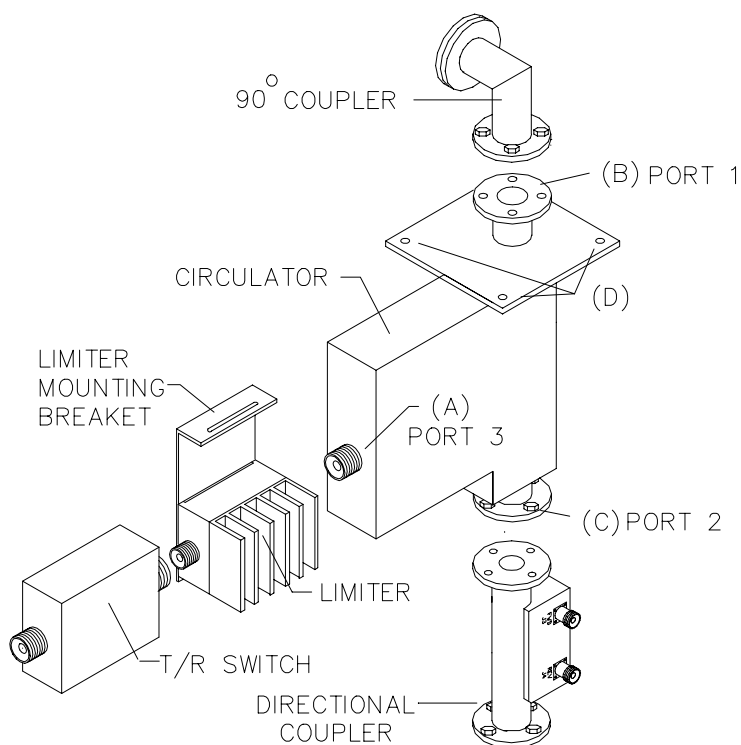

Figure 5-11 Circulator Replacement
2. Remove the side panel of the BSU Cabinet (see Figure 5-11).
3. Remove the mounting screws that attach the Limiter mounting bracket to the top of the BSU Cabinet (see Figure 5-11).
5. Disconnect the Limiter and T/R switch from port 3 of the Circulator point (A) in [Figure 5-11] by unscrewing the type "N" connector. Place the Limiter and T/R Switch on top of the Receiver.
8. Remove the four bolts that fasten the top of the Circulator to the 900 Coupler point (B) in [Figure 5-11].
10. Remove the bolts connecting the Circulator to the Directional Coupler point (C) in [Figure 5-11].
12. Remove the four bolts holding the top of the Circulator to the top panel of the BSU Cabinet point (D) in [Figure 5-11] and remove the Circulator.
16. Align port 2 of the Circulator point (C) of [Figure 5-11] with the center conductor of the Directional Coupler, and lower the Circulator straight down so that the center conductor is inside the Circulator. Rotate the Circulator flange so that the hole in the flange aligns with the pin on the Directional Coupler flange.
17. Fasten the four bolts connecting the Circulator to the Directional Coupler point (C) in [Figure 5-11].
23. Reconnect the T/R Switch and Limiter to port 3 of the Circulator and tighten the type "N" connector point (A) in [Figure 5-11].
4. Remove the mounting screws that attach the Limiter mounting bracket to the top of the BSU Cabinet (see Figure 5-11).